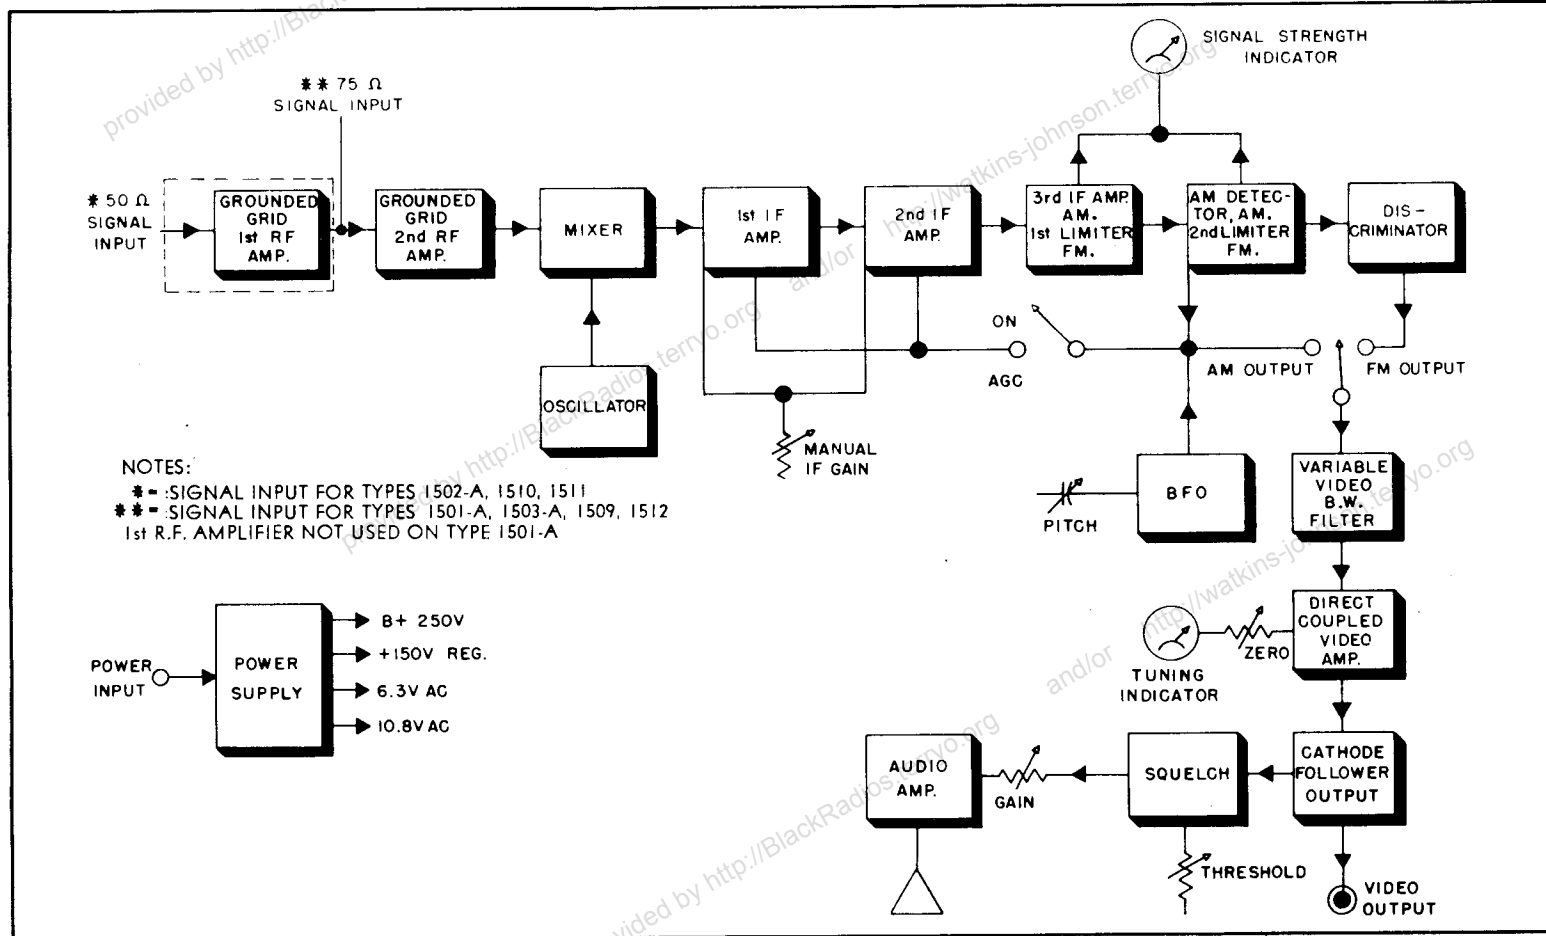

Figure 2-1. Block Diagram and Performance Specifications, 1500-A Series Special Purpose Receivers
For further details concerning the capabilities and special features of the receivers of the Model 1500-A series, see Figure 2-1.
A Block diagram of the Model 1500-A series receivers is shown in Figure 2-1. The circuit, with the function switch in the AM or FM position, is a single superheterodyne with an IF operating at a frequency of 21.4 mc.
G. Differences between various models. - Refer to the schematics at the back of the book for specific variations between the various models. All models of the receiver use the same main chassis assembly, Model 1503-A is supplied with an RF section which tunes 40 to 180 mc; Model 1509-A is supplied with a 500 kc IF bandwidth. Refer to Figure 2-1, Block Diagram and Performance Specifications for a further comparison of the various models.